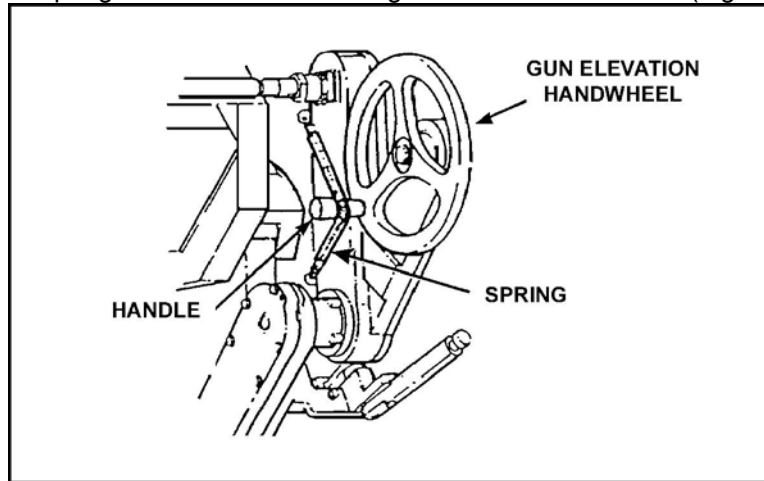

Figure 5. Gun elevation handwheel.
- (1) Press and hold the push button.
- (2) Move the TOW select lever to MANUAL and release the push button.
- d. Remove the spring from the handle of the gun elevation handwheel (Figure 5).